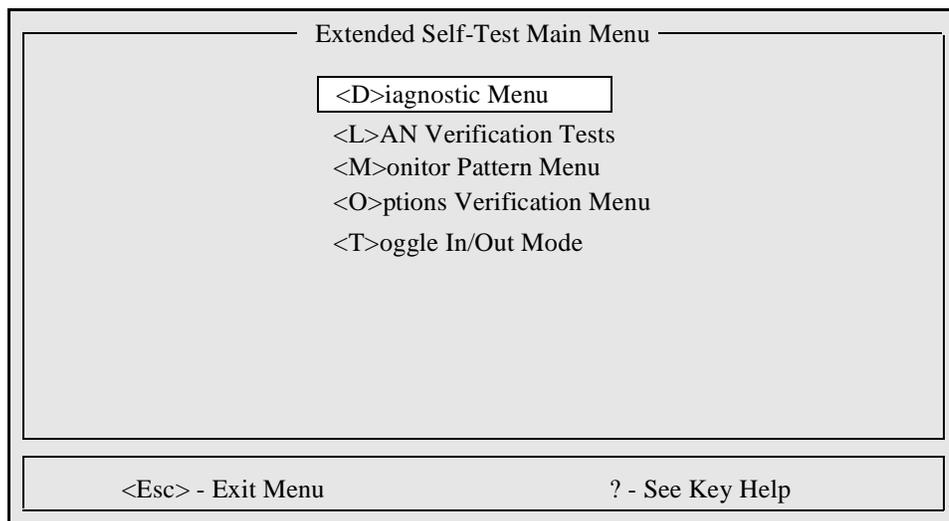

Figure 25. Extended Self-Test Main Menu
4. Type *Selftest* at the *BOOT>* prompt. The Extended Self-Test Main Menu, shown in Figure 25, appears.